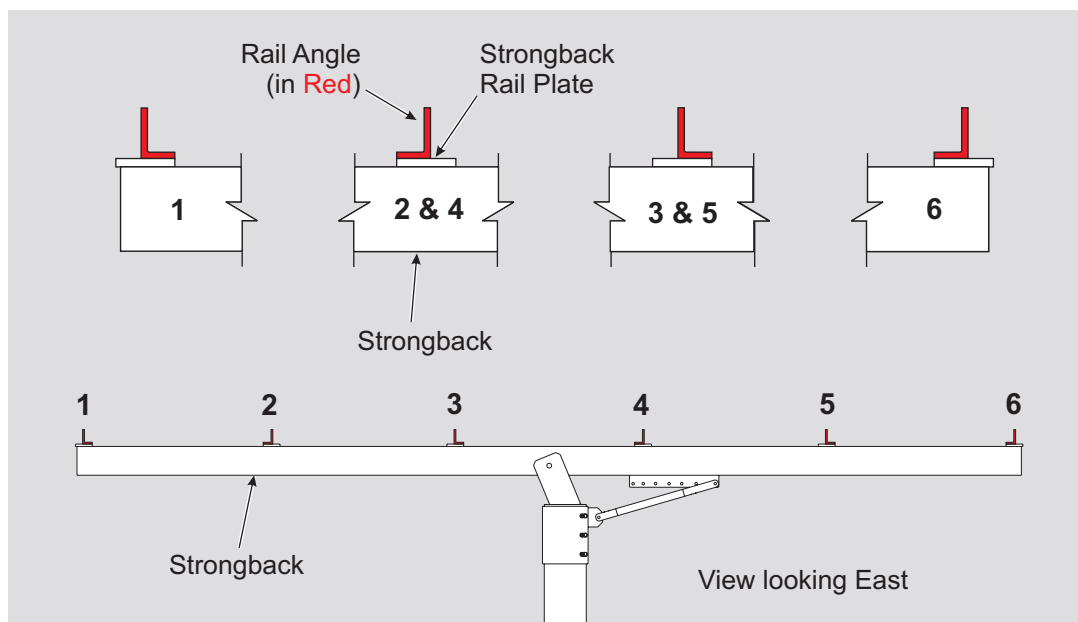
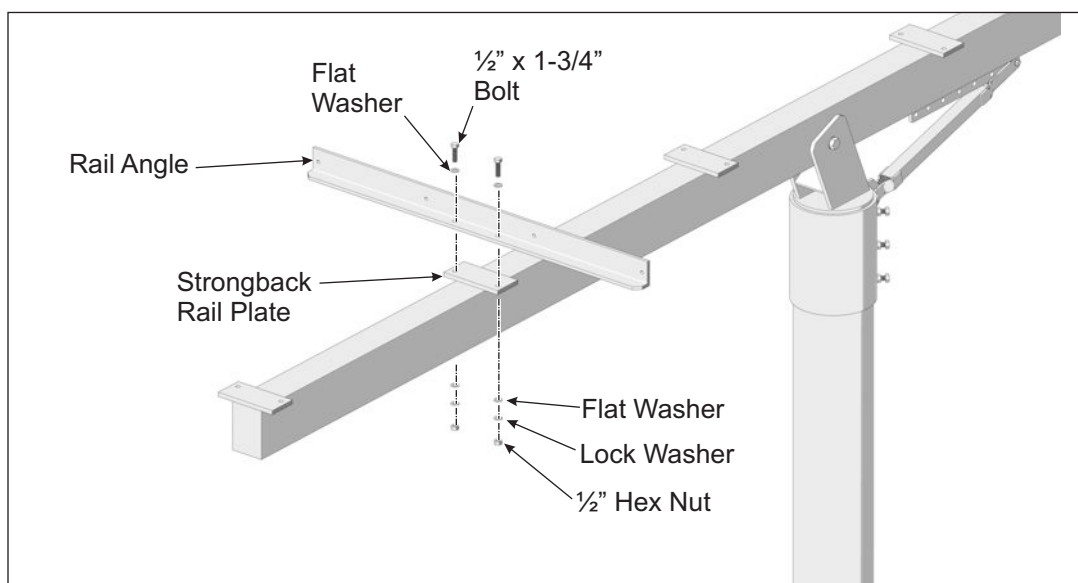

Figure 3-1: Orientation of Rail Angles to Strongback
Figure 3-2: Installing Rail Angles to Strongback
Rail Angles run in an E-W direction and are secured to the rail plates (welded to the Strongback) using the 1/2" x 1-3/4" bolts and hardware. Proper orientation of the Rail Angles to the Strongback is very important, follow these instructions carefully (See Figures 3-1 & 3-2). There are 6 Rail Angles to install.
- A. Referring to Figure 3-1 for orientation of the Rail Angles position the Rail Angle on the Rail Plate of the Strongback and secure with 1/2" x 1-3/4" bolts and hardware. Finger tighten for now. (See also Figure 3-2)